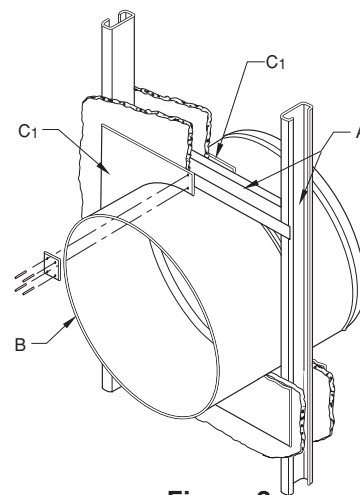

Figure 2
- A. Concrete or masonry fire partition shown in figure 1a and 1b. Wood or steel stud fire partition shown in figure 2. See Wood Stud and/or Steel Stud Framing for Fire Dampers In Drywall and/or Cavity Shaftwall Partitions Supplemental Installation Instructions for further vertical installation details. The square or round opening shall be a minimum ¼" (6) larger than the damper sleeve/frame. Damper must be installed with the leading edge of the closed blade within the partition. Damper may be installed with the blade a maximum of 15 degrees from horizontal. For mounting angles that are up to and including 1-½" high, the opening shall be a maximum of ¾" (19) larger than the overall damper and sleeve assembly. When openings are larger than ¾" (19), but less than 6" (152) the mounting angles must be a minimum of 16 gauge (1.5) and must be tall enough to overlap the opening by a minimum of 1" (25).
- B. The connecting duct shall not be continuous, and shall terminate at the sleeve/frame using one or more of commonly used break away style connections. Refer to Sleeve Termination Supplemental Installation Instructions for further details. Damper sleeve shall not extend more than 16" (406) beyond the rated partition on the fuse link side. The opposite side extension shall be a maximum of 6" (152) unless an access door is installed in the sleeve which then permits the extension to be a maximum of 16" (406).